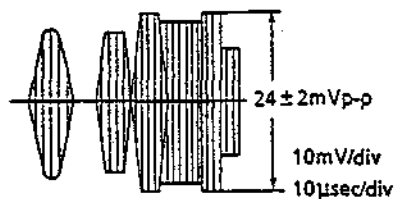

Figure 2-6.
- c) Adjust R504 (recording chroma control) so that the red level be $24 \pm 2\text{mVp-p}$ as shown in Figure 2-6.